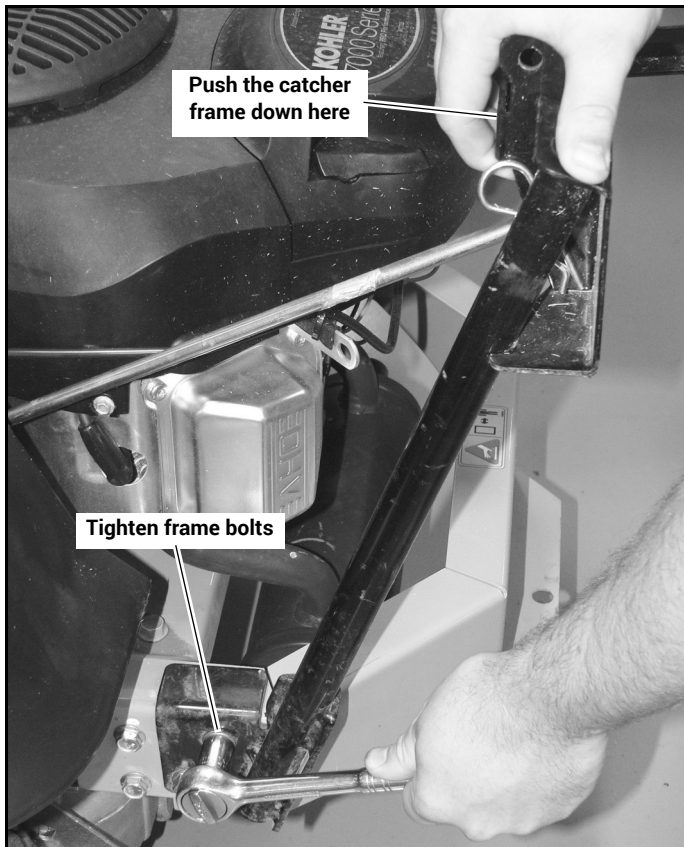

Figure 3-3
7. Push down on the catcher frame and tighten the lower frame bolts. Pushing down on the catcher frame while tightening these bolts will provide the correct tension on the tie rods. Figure 3-3